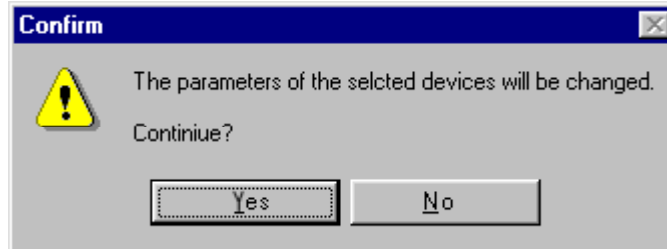

Fig. 6: Confirmation dialog before changing the selected devices
6. The confirmation dialogue is displayed (see fig. 6). When the button "Yes" is selected, the adaptation procedure in the ETS database is continued. "No" returns to the selection dialog (step 5).